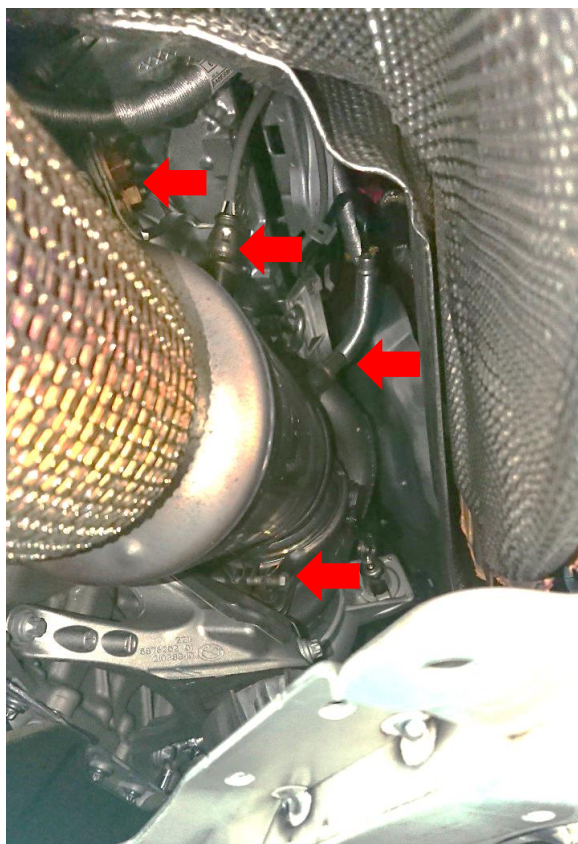

Fig. 3
1. Remove the retainer clamps, bushes screw, the front and rear oxygen sensors, then remove the original cat pipe. (Fig3)